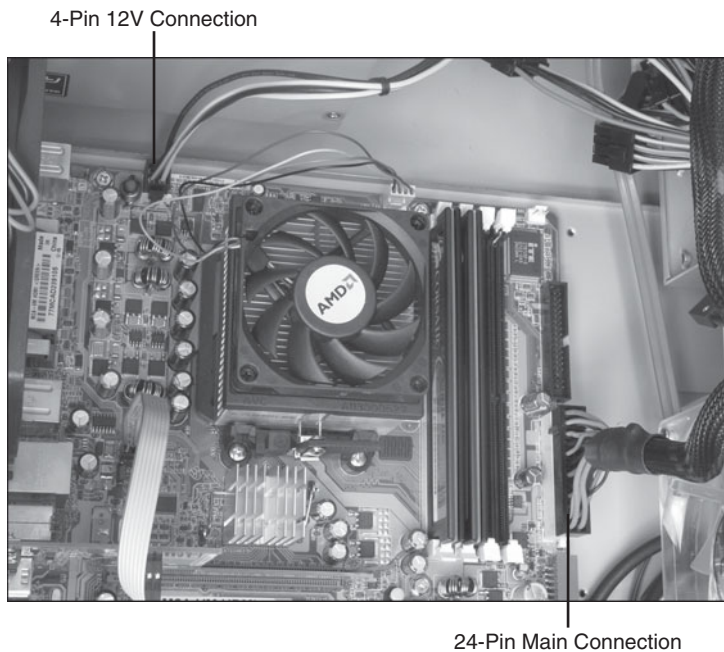

FIGURE 14.26
- A 24-pin main power header, into which you plug the power supply's 24-pin connector, as pointed out in Figure 14.26.
- A 4-pin 12V header, into which you plug the power supply's 4-pin connector, as pointed out in Figure 14.26.